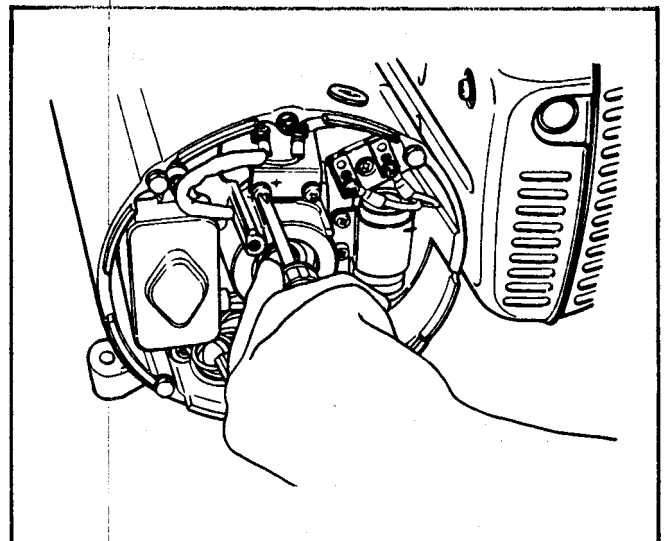

Figure 142
6. Continue disassembly by removing the brush holder. See Figure 142.